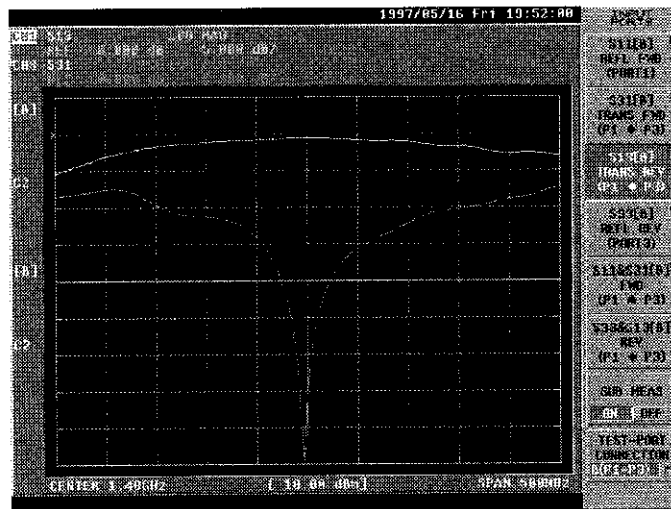

Figure 4-12 Transmission Characteristics between TEST PORT1 and TEST PORT3
- ⑥ TEST PORT CONNECTION B(P1-P3) is displayed as shown in Figure 4-12. The CH1 shows S31 measurement data and the CH3 (SUB MEAS) shows S13 measurement data.